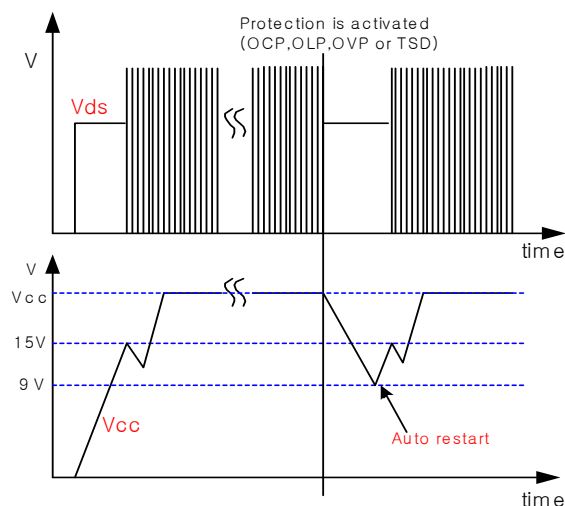

Figure 3. Auto restart operation after protection
**3. Protection function :** FS8S0965RCB has 4 self protective functions such as abnormal over current protection (AOCP), over load protection (OLP), over voltage protection (OVP) and thermal shutdown (TSD). Because these protection circuits are fully integrated into the IC without external components, the reliability can be improved without cost increase. In the event of these fault conditions, the FPS enters into auto-restart operation. Once the fault condition occurs, switching operation is terminated and MOSFET remains off, which forces  $V_{cc}$  to be reduced. When  $V_{cc}$  reaches 9V, the protection is reset and the supply current reduces to 80  $\mu$ A. Then,  $V_{cc}$  begin to increase with the current provided through the start-up resistor. When  $V_{cc}$  reaches 15V, the FPS resumes its normal operation if the fault condition is removed. In this manner, the auto-restart alternately enables and disables the switching of the power MOSFET until the fault condition is eliminated as illustrated in figure 3.